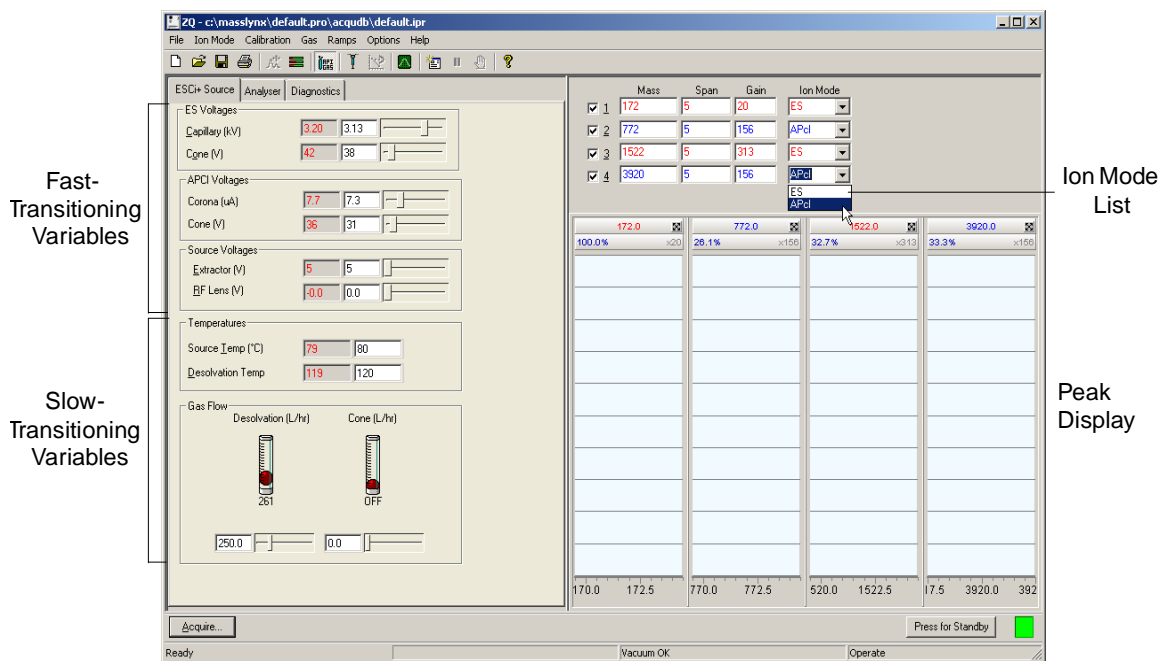

Figure A-7 Selecting the Ion Mode in the MassLynx Peak Editor
3. Optimize the fast-transitioning values, **ES Voltages**, **APCI Voltages**, and **Source Voltages**, for each mode and polarity (Figure A-7).
4. Optimize the slow-transitioning values, **Temperatures** and **Gas Flow**, for both ESI and APCI performance (Figure A-7).
5. Select **APCI** or **ESI** for each row in the Ion Mode column by clicking the drop-down list in each row (Figure A-7).